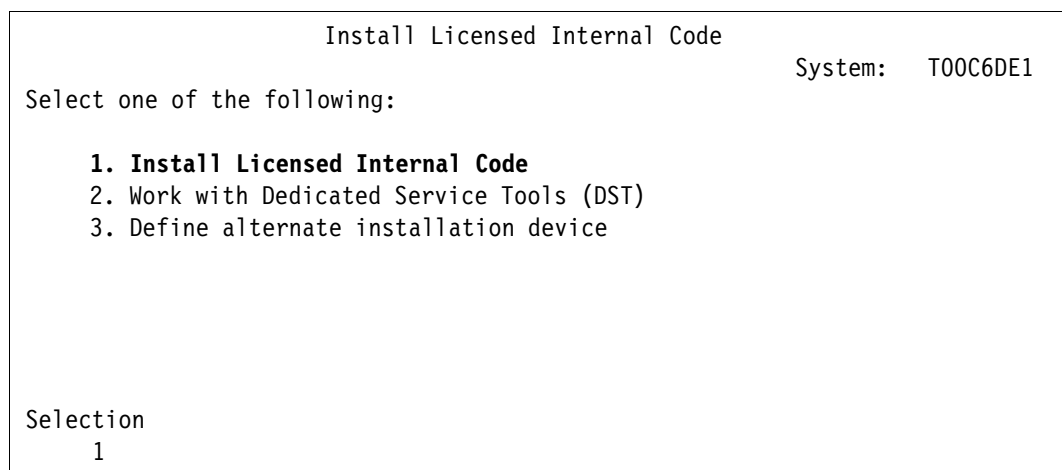

Figure 11-37 Installing License Internal Code
1. Select the language group for IBM i, and then select option 1, Install Licensed Internal Code (Figure 11-37).